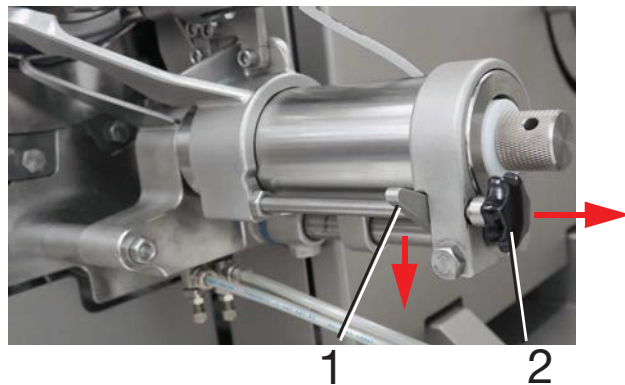

Fig. 5-8 1 Latch
- Remove the casing brake holder: To do this, press the latch (1, Fig. 5-8) down and at the same time, pull the knob (2, Fig. 5-8) to the right.